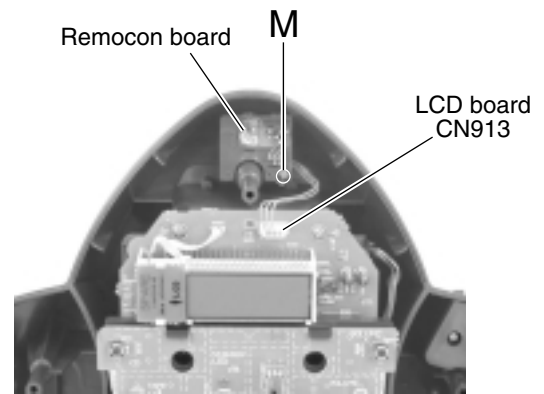

Fig.14
■ Removing the remocon board (See Fig.14)